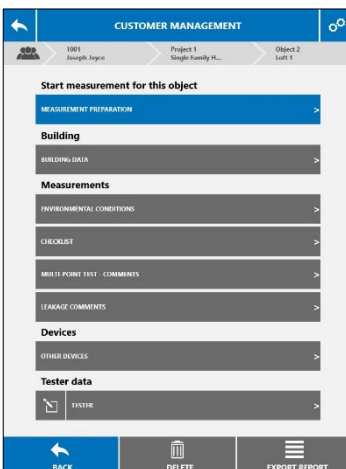

Fig. 32: Customer management > Customer > Project > Object
- To do this, tap the "Measurement Preparation" button in the "Customer Management" view (see Fig. 32).